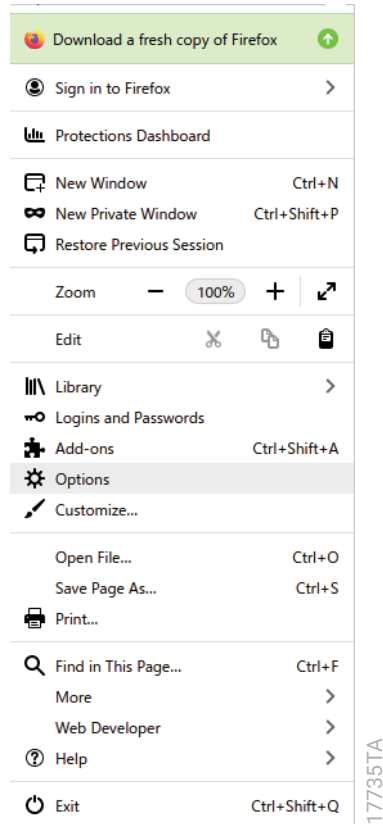

Figure 129. Mozilla Firefox® options.
1. Select **Options** from hamburger icon at the top right of the browser (Figure 129).